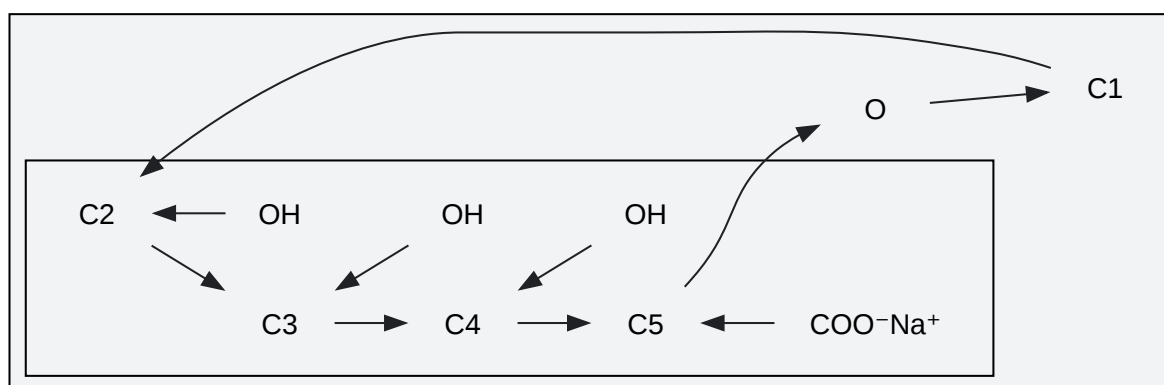

Figure 1: Chemical Structure of Sodium D-Mannuronate
- ResearchGate. (n.d.). Fig. 1. Structure of alginate sodium salt. A 1 : D-mannuronic acid, A 2.... Retrieved from [Link]